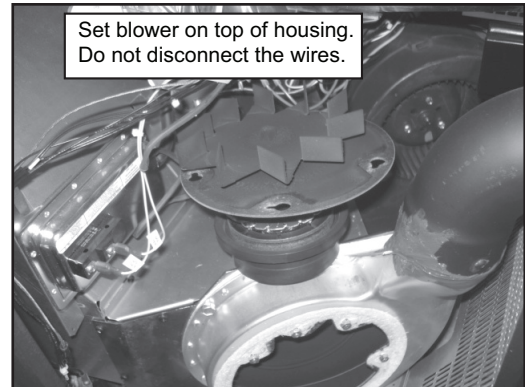

Figure 7 - Stove is shown in this example
- Set the blower on the top of the housing for the stove and place on the firebox floor for the insert. You do not need to disconnect the wires. **Figure 7.**